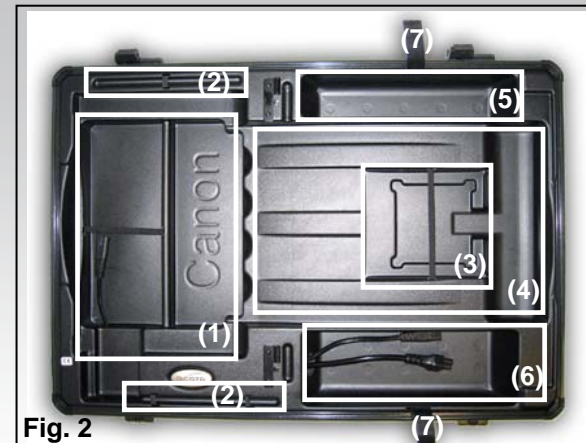

Fig. 2
Case lid (Fig. 2)
- (1) Fit for your printer (Canon i80/iP90)
- (2) Cable routing help
- (3) Stow-away pocket for CD-ROM, 3,5" FDD, etc.
- (4) Stow-away pocket for printed paper
- (5) Stow-away pocket for Notebook power supply with plug for a Euro 8-socket (with / without ground wire)
- (6) Stow-away pocket for printer power supply with plug for a Euro 8-socket (with / without ground wire)
- (7) Notebook strap
- (8) Flap lid (not seen in Fig.2)
- 2) Place the printer power supply in the front pocket of the bottom part of the case (Fig.2, pocket No. 6).
- 3) Now connect the Euro 8 plug with the 220 V socket of the power supply (Fig.2, in pocket No. 6). Secure the printer power supply with the two Velcro straps!